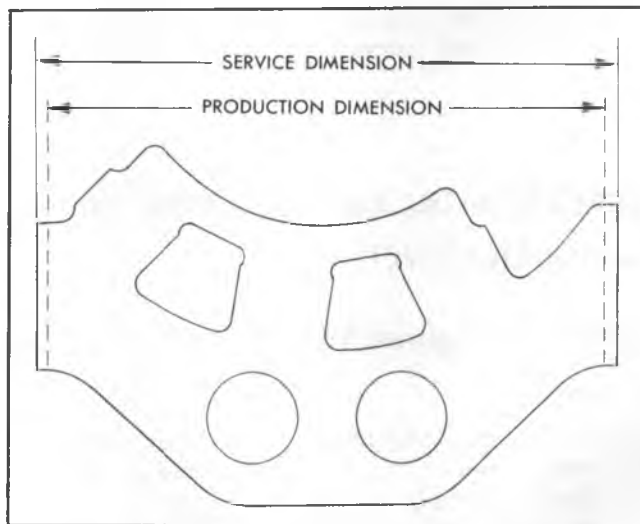

Fig. 8L--Bearing Adjusting Lock Service Replacement
6. Install right-hand bearing adjuster lock (4) and secure with cotter pin.
**NOTE:** Check fit of left-hand lock (35) in bearing cap (5). Lock should be an interference fit in the bearing cap. If lock is loose replace with a service lock which is 1/8" wider than the production lock Figure 8L. To fit the new lock to the bearing cap, grind both ends of the lock until an interference fit of .008" to .012" exists between the cap and lock. Care should be taken to keep lock surfaces parallel with the mating surfaces of the bearing cap.
7. Install left-hand lock (35) and attach with two bolts (36). Secure bolt with lock wire.